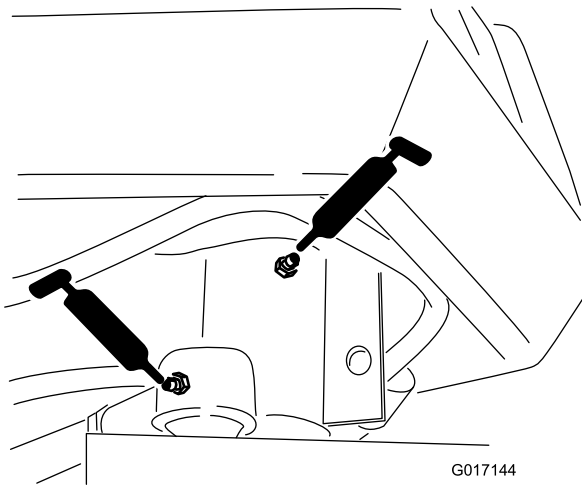

Figure 37
- Steering fork shaft (1) (Figure 37)
- Steering cylinder rod end (Figure 37)